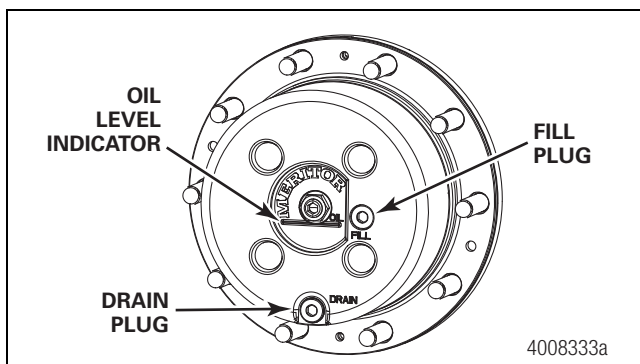

Figure 19.6
5. Place a drain pan under the hub drain plug. Rotate the wheel end so the drain plug is at its lowest position. Remove the drain plug and allow the hub oil to drain completely from the wheel end. Figure 19.6.